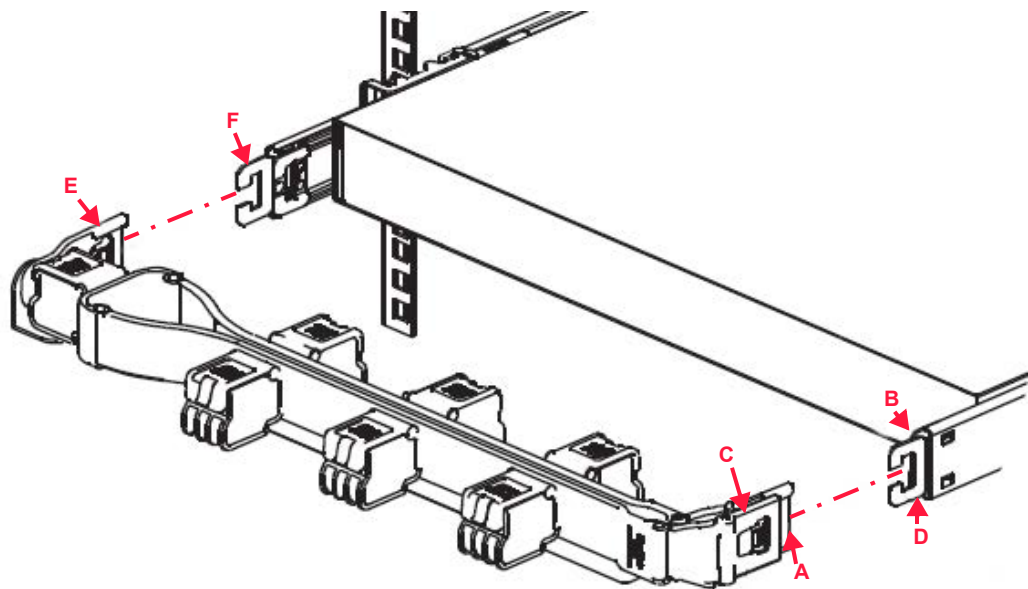

Figure 4.19 CMA components
Each server module enclosure is supported by a CMA, which permits removal of the cables from one server module without disrupting any other server modules. Each of the CMA connectors listed in Table 4.1 is identified in Figure 4.19.
1. Become familiar with each of the CMA components that are identified in Figure 4.19 and listed in Table 4.1 on page 45.